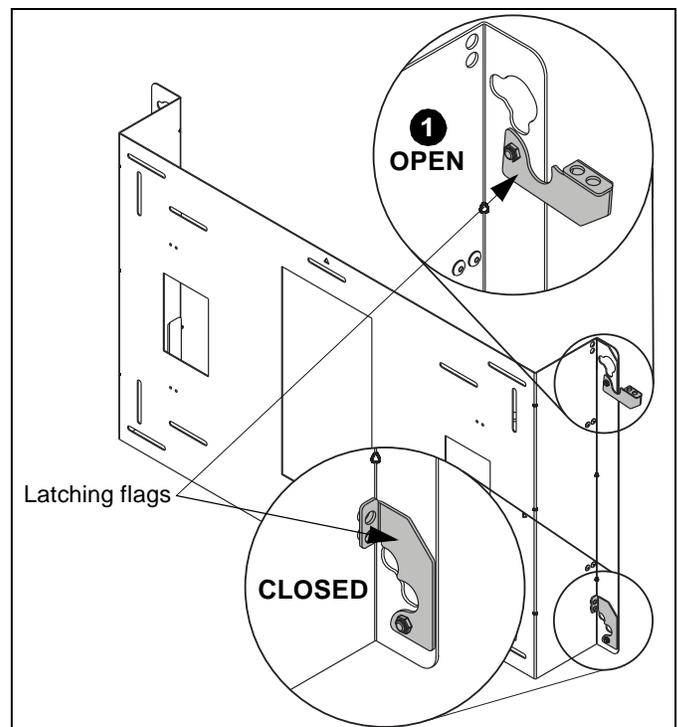

Figure 6
1. Move latching flags on mount to the **OPEN** position. (See Figure 6)